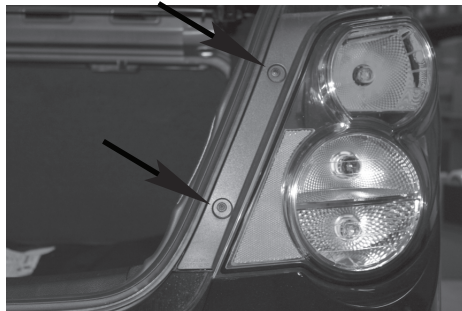
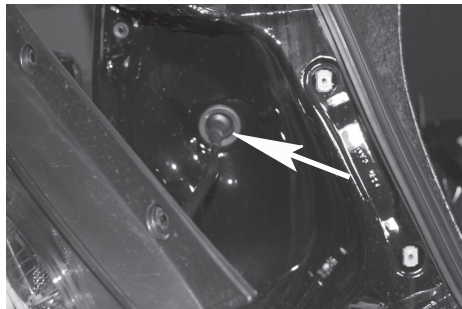

Figure 3
Figure 4
5. On passenger side of vehicle remove taillight by removing two phillips screws shown in **Figure 3**. Gently pull taillight towards you taking care not to damage alignment pins. Pull grommet shown in **Figure 4** away from body, pull connector through grommet opening and set taillight to the side.